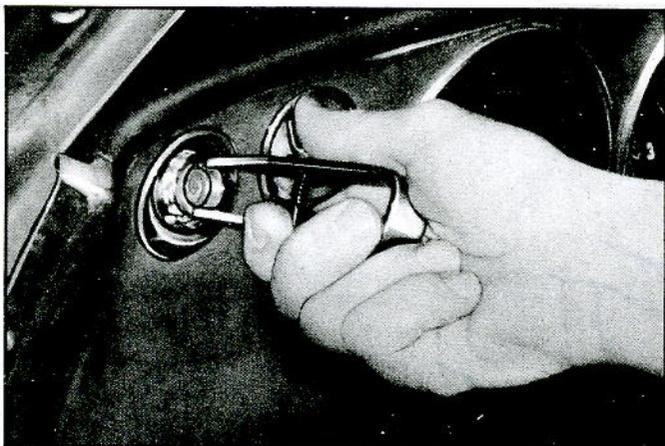

Fig. 12—Removing Bezel Nut
4. Remove the switch bezel nut using Tool J-21932 (fig. 12).